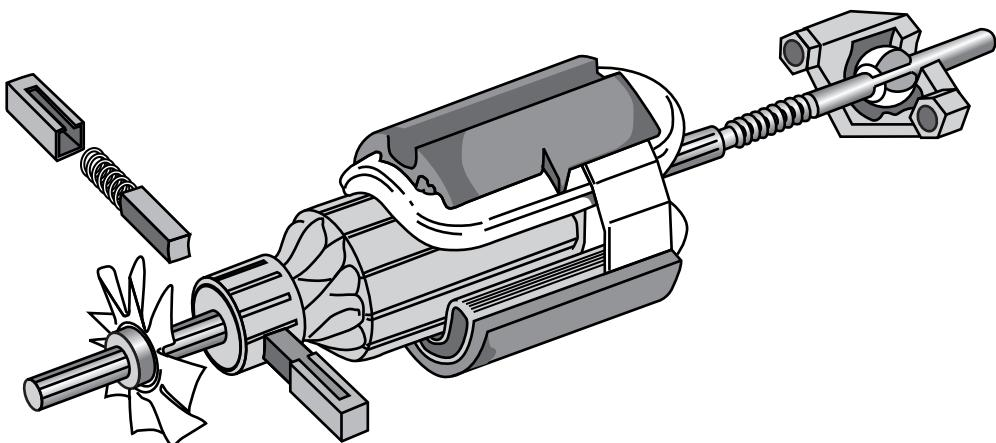

Fig. 4
- 3 (a) Fig. 4 shows a motor used in a hairdryer.
- (i) Add labels to Fig. 4 to show any **two** component parts of the motor. [2]
- (ii) State the function of **one** of the parts that you have labelled in Fig. 4.